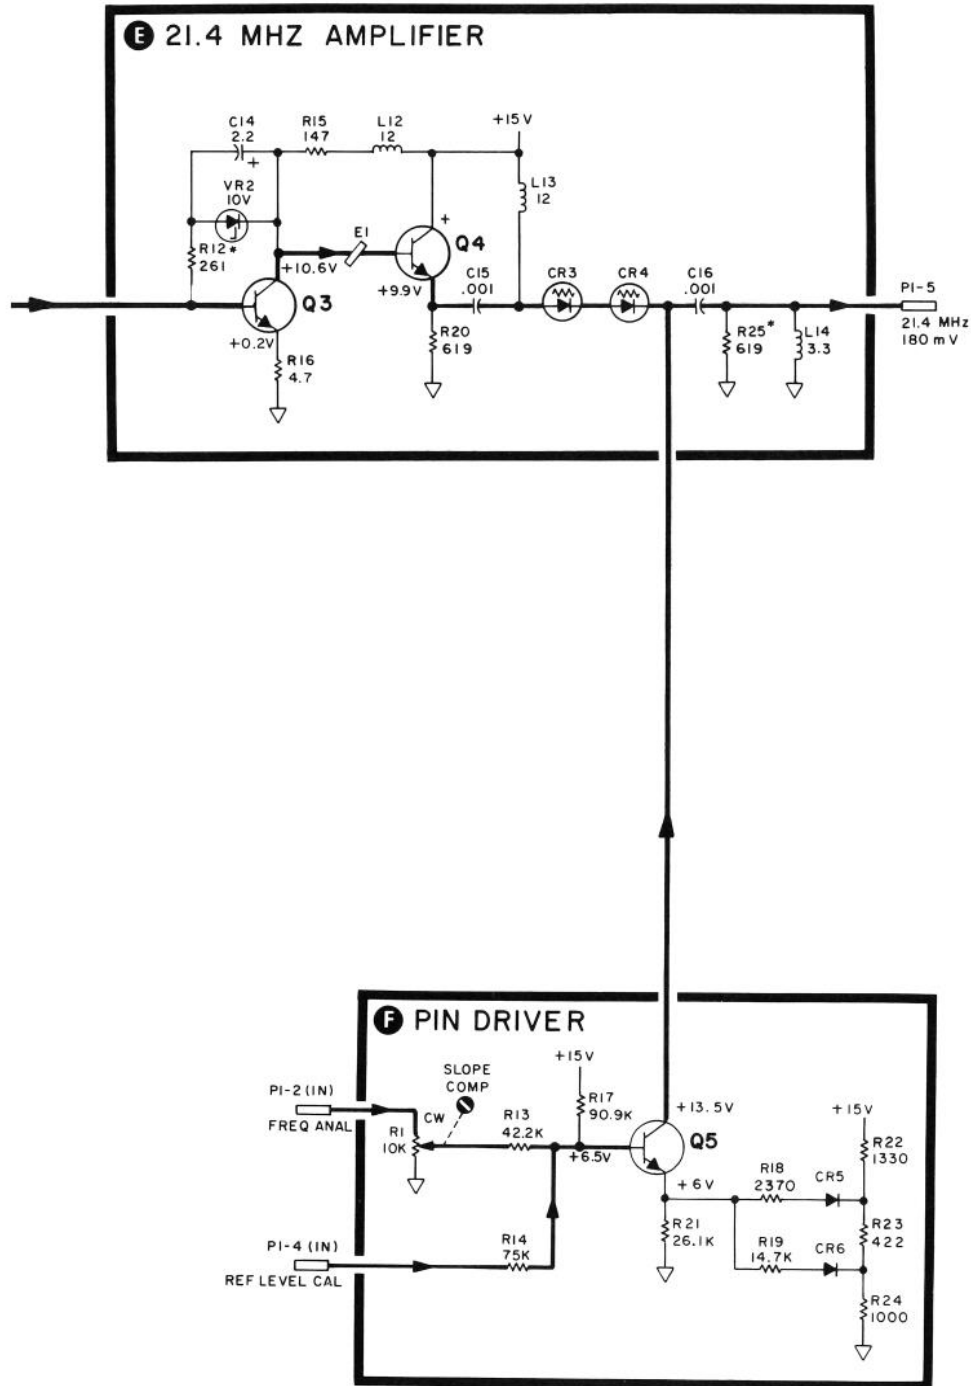

FIGURE 7-10. P/O A9 THIRD CONVERTER AND A10 SECOND IF ASSEMBLIES, SCHEMATIC DIAGRAM
1914A with suffixes (F) shown in Figure 7-10, included in this Manual Backdating